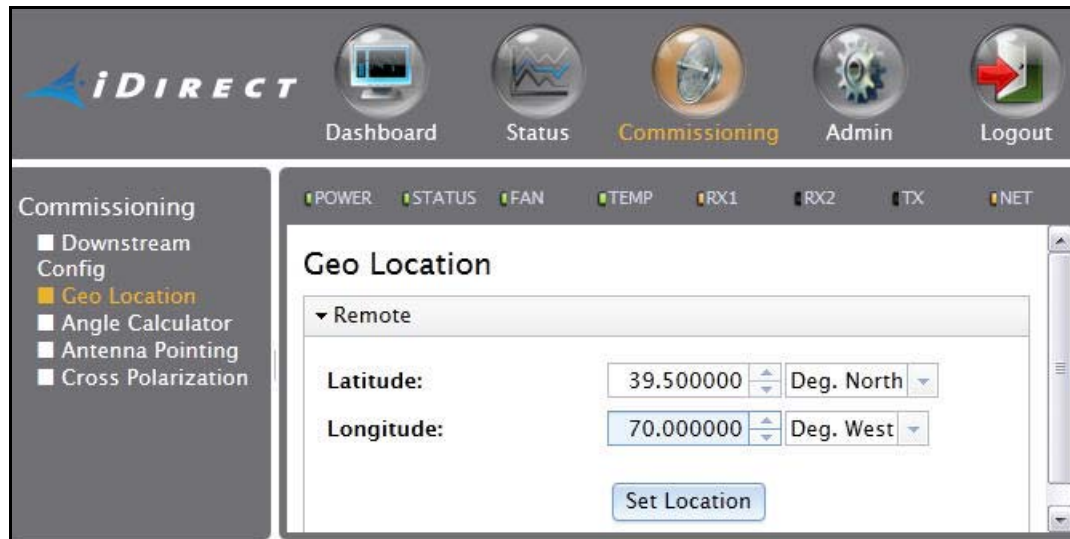

Figure 45. Setting Geographic Location: Evolution X7
4. In the left-hand menu pane under Commissioning, click Geo Location to open the Geo Location page (Figure 45).